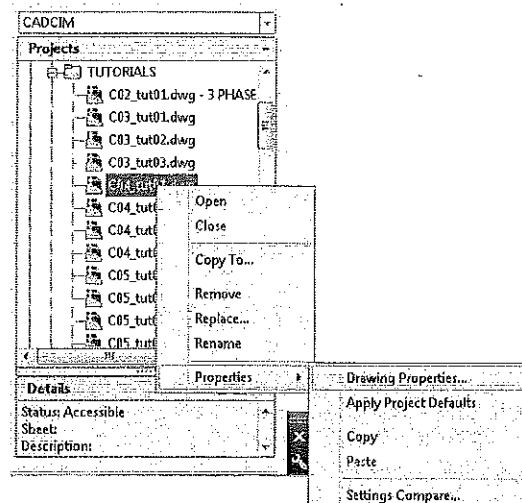

Figure 13-50 Choosing Properties > Drawing Properties from the shortcut menu
8. Right-click on any of the tutorial files in the **CADCIM** project; the shortcut menu is displayed. Choose **Properties > Drawing Properties** from this shortcut menu, refer to Figure 13-50; the **Drawing Properties** dialog box is displayed.